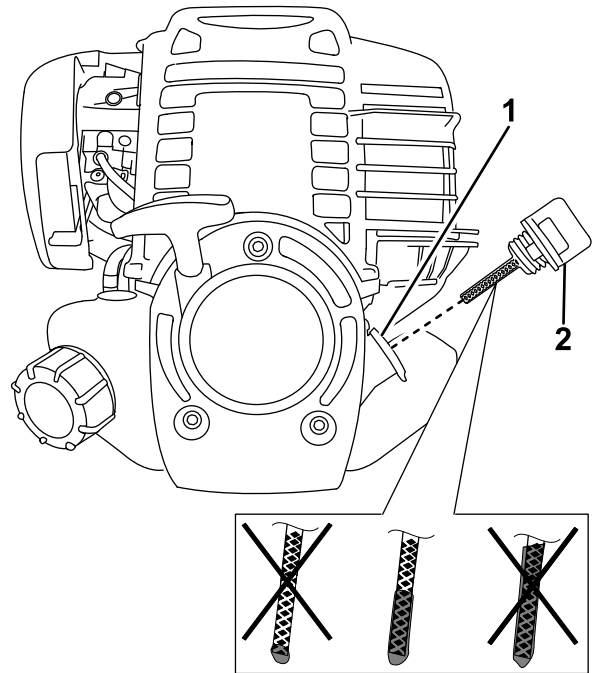

Figure 19
4. Remove the oil cap/dipstick and wipe the end clean (Figure 19).
5. Slide the dipstick fully into the fill port without threading it into the port (Figure 19).
6. Remove the dipstick and look at the end. If the engine oil level is low, slowly pour only enough oil into the fill port to raise the level to the Full mark on the dipstick (Figure 19).
7. Replace and secure the dipstick (Figure 19).